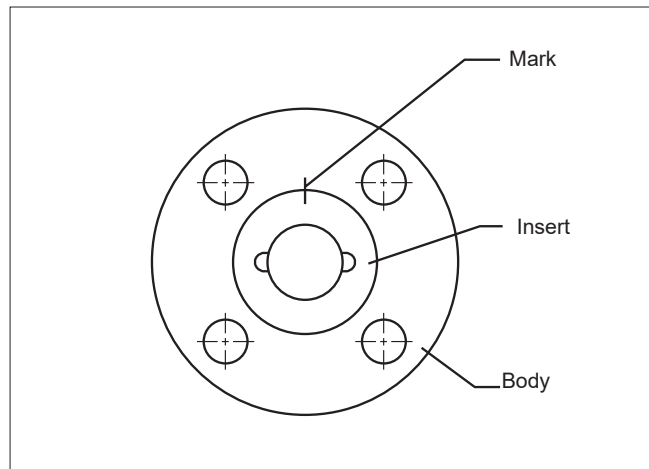

Figure 4.
7. Using a spanner wrench, screw the insert (2) into the body until it is fully seated. Mark the position as shown in (**Figure 4**). Counting the number of turns, remove the insert.
8. Insert the ball (3), rotating it onto the stem (4) in the closed position. If necessary, turn the stem blade to align with the ball slot.